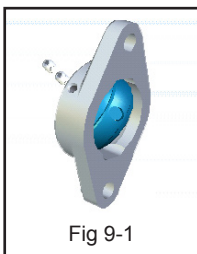

Fig 9-1
Step 3: Thread setscrew through the housing and towards the Poly-Round® (anti-rotation pin). (See Fig 9-1.) Set-screw should be screwed down until it just touches the bottom of the slot. Reverse the setscrew (back-it-out) one FULL turn (360°).